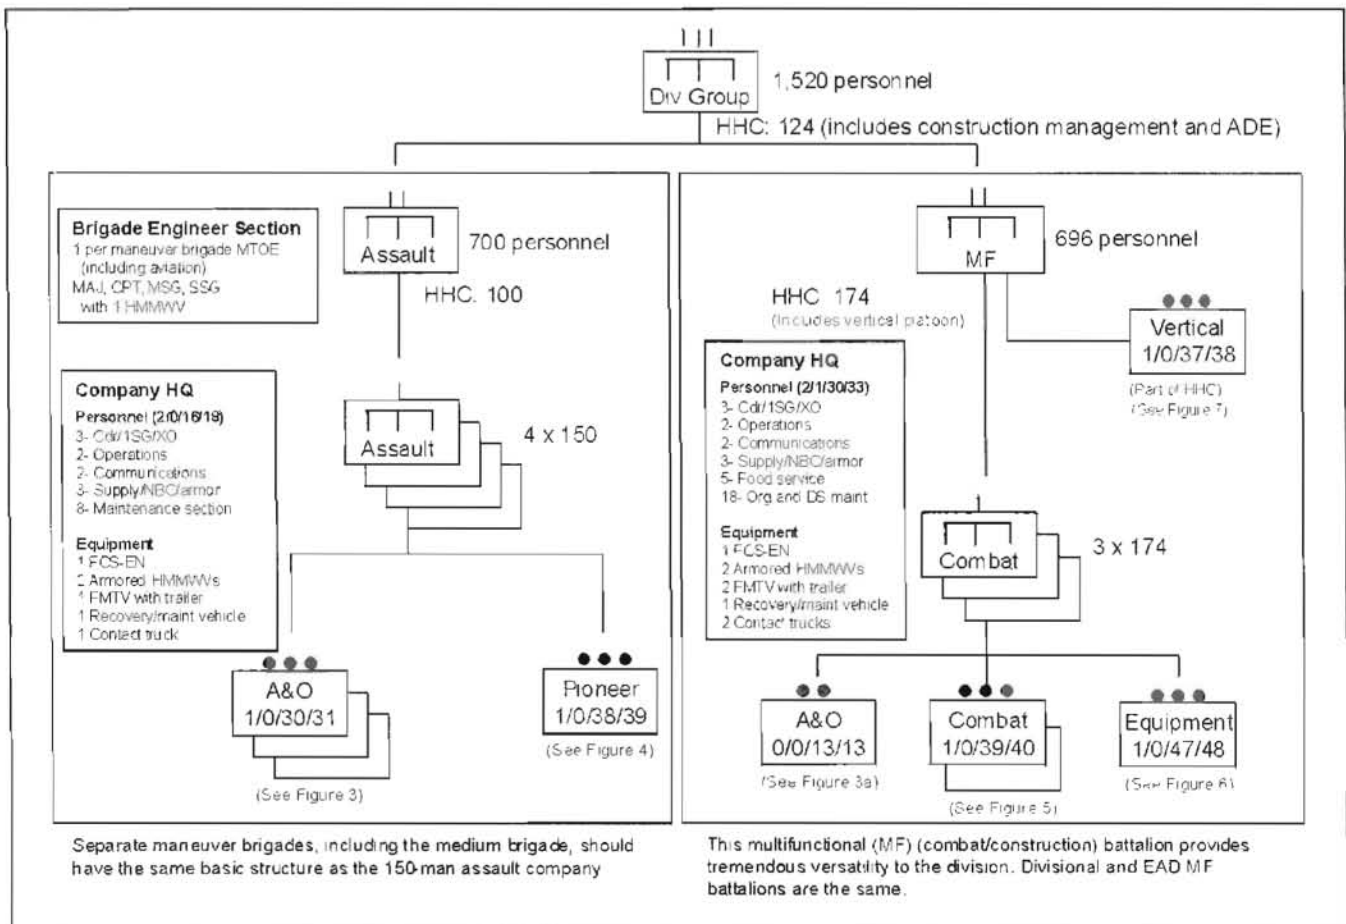

Figure 2. Standard Divisional Engineer Group Structure
**1. Field assault companies for the IBCTs (now to 2002).** (See assault battalion in Figure 2.) While this organization is larger than the company currently proposed, the three assault and
## **2. Field engineer groups with the interim divisions that have one assault battalion and one multifunctional (combat and construction) battalion (2003 to 2007).** (See Figures 2 to 7, pages 9 and 11 to 13.)